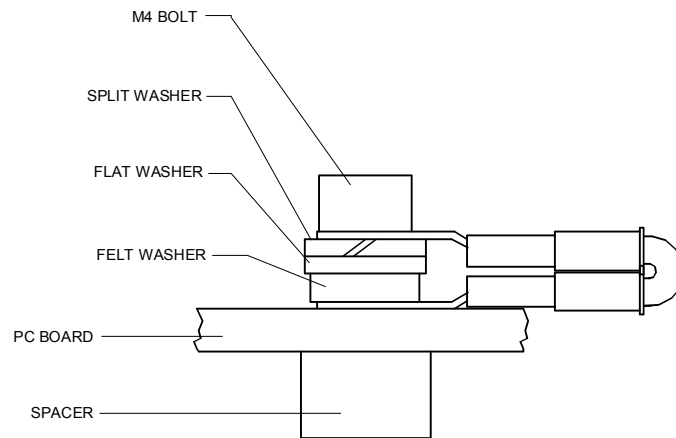

Figure 27. Ground Jumper
- b. Using a 3 mm Allen wrench and a 7mm wrench remove the nuts from the bolts that secure the Spare Boards together. You will be using these bolts to secure the spare set in your system. DO NOT change the position of any of the bolts. The bolt containing the felt washers and ground jumper must remain in the same position (see Figure 27, page 103).